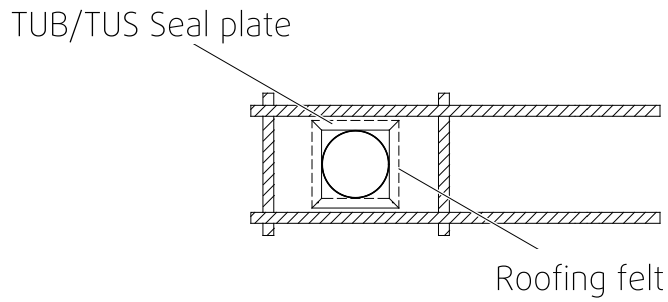
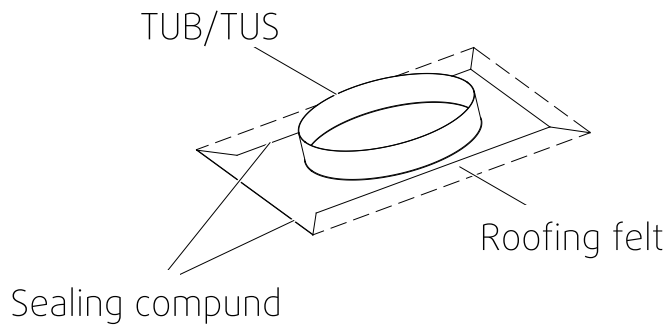
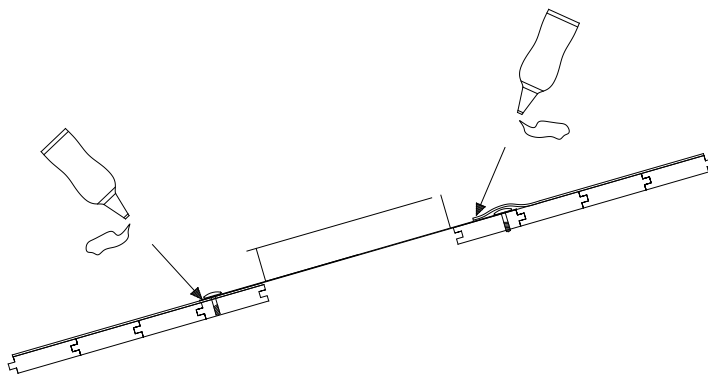

Fig. 2
Fig. 3
Fig. 5
2. The TUB is placed (collar upwards) under the roofing felt at the upper edge and along the sides, and on top of the roofing felt at the lower edge, figure 2 and figure 5.
4. Seal all joints at the TUB with a suitable sealing compound, figure 3 and figure 5